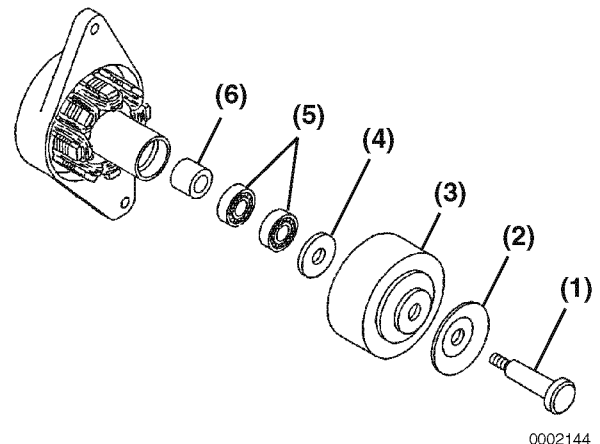

Figure 11-27
4. Reinstall the front bearings (Figure 11-27, (5)) and spacer (Figure 11-27, (6)).
5. Reinstall the flat washer (Figure 11-27, (4)), flywheel (Figure 11-27, (3)), pulley half (Figure 11-27, (2)), and through bolt (Figure 11-27, (1)).